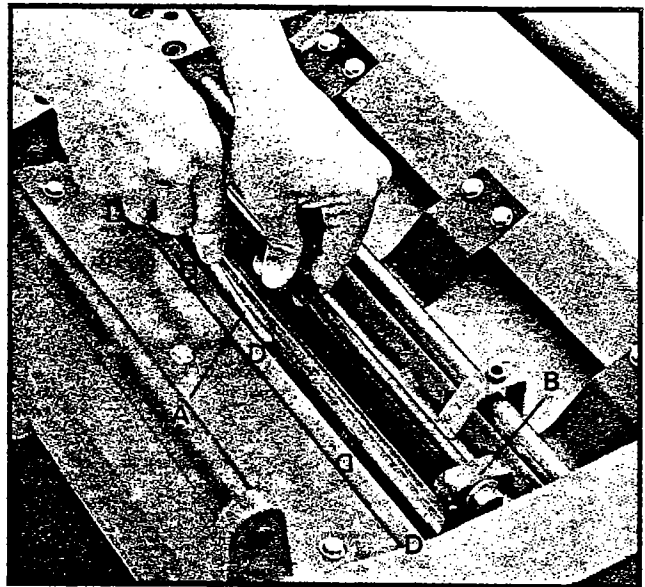

Fig. 22
A. To CHECK AND ADJUST KNIVES use knife gage (A) Fig. 22 and 23, and check all three knives for proper setting as shown. When the gage (A) is placed properly on the cutterhead as shown, the knife should just contact the bottom of the center protrusion (B) Fig. 22 and 23, of the gage.
E. After all three knives are set with screws just snug, back out and tighten the five screws (D) Fig. 22 and 23, against the slot starting with the end screws first then the center screws until the knife is securely held in the cutterhead. Tighten remaining two knives in the same manner.